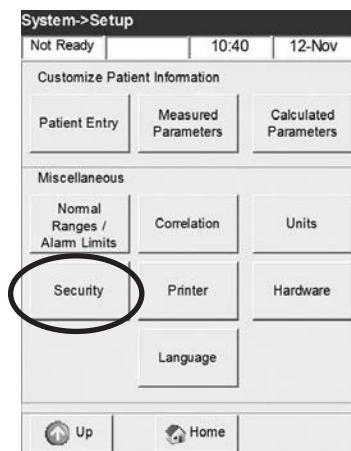

Fig. 3-23 Select Security
- In the **<System Setup>** menu, press **<Security>** (Fig. 3-23).